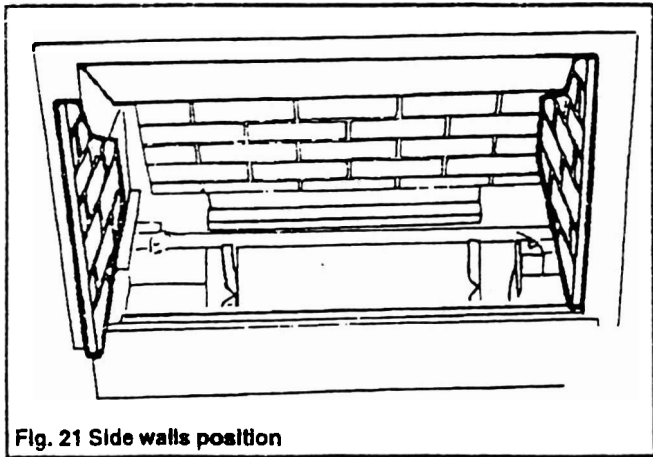

Fig. 21 Side walls position
15.2 Place the ceramic side walls in position at the sides of the firebox. The sides are left and right handed. The sides should locate in the sloping channels near the bottom of the firebox sides and in the gap between each side of the firebox and the black top baffle (see figure 21).